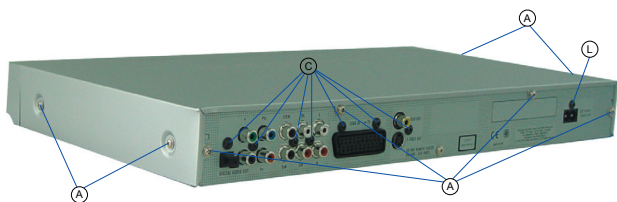

Fig. 1
- Undo the 8 screws A (Fig. 1)
- Bend the upper part of the cabinet from the rear side (Fig. 1) off the base plate, and then detach the cabinet upper part from the unit.
- Undo the 1 screw L (Fig. 1).
- Undo the 4 screws C (Fig. 1).